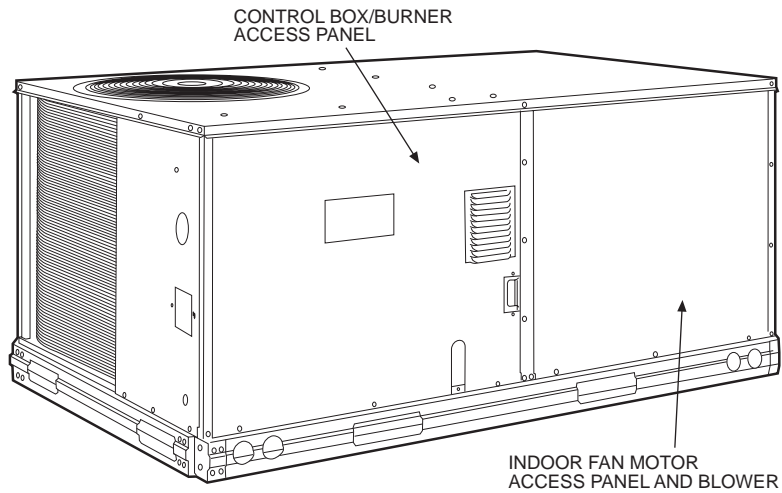

Fig. 35 — Typical Access Panel Locations (Standard Efficiency Unit Shown)
10. Remove the indoor fan motor access panel. See Fig. 35.